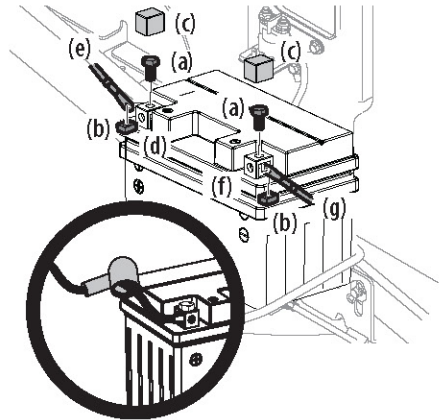

Figure 21
1. Remove the factory installed hex screws (a) and square nuts (b) located either on the end of the wiring harness or in the bag with this manual. Retain the hardware for later instructions. See Figure 21.
2. Remove the plastic cover (c), if present, from the positive battery terminal (d) and attach the red cable (e) to the positive battery terminal (d) with one of the hex screws (a) and square nuts (b), from Step 1. Use a Phillips screw driver. See Figure 21.
3. Remove the plastic cover (c), if present, from the negative battery terminal (f) and attach the black cable (g) to the negative battery terminal (f) with the remaining hex screw (a) and square nut (b). See Figure 21.
4. Position the red rubber boot over the positive battery terminal to help protect it from corrosion. See inset in Figure 21.